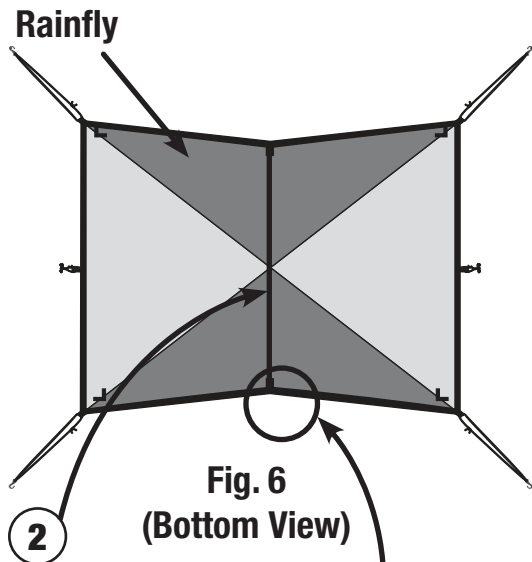

Fig. 6
- Attach ridge pole to underside of rainfly with straps and insert the tips of the ridge pole into the pockets on underside of rainfly. (Fig. 6 & 7)